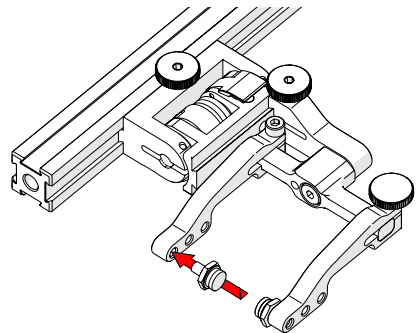

Fig. 199 - Place pivot buttons
4. Using the supplied 3/8 in wrench (Fig. 2), place the pivot buttons (Fig. 199) farthest from the yoke for maximum wedge clearance.